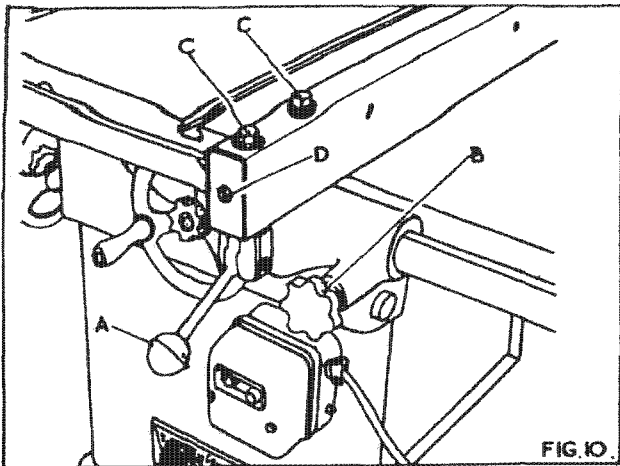

FIG. 10.
1. Lift handle "A" in Fig. 10 and disengage the pinion from the front racked fence bar by pulling handwheel "B" out of the fence front bracket.
3. If fence is incorrectly aligned, loosen the two hexagon head bolts "C", in Fig. 10, and re-align as above. When set tighten all bolts.